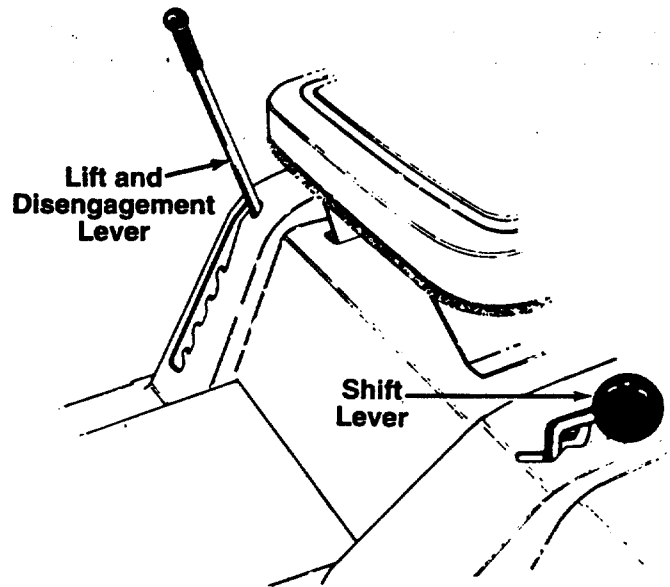

FIGURE 8.
The shift lever is located on the left fender and has three positions, FORWARD, NEUTRAL and REVERSE. See figure 8. The clutch-brake pedal must be depressed and the lawn tractor must not be moving when shifting gears. Do not force the shift lever. Release the clutch-brake pedal slightly to line up the shifting collar in the transmission. Then try to shift gears.
The lift and disengagement lever is used to raise and lower the cutting deck which determines the cutting height. Pulling it all the way back and locking it disengages the blades. The lift and disengagement lever must be in the disengaged position when starting the engine, when shifting into reverse or if the operator leaves the seat. See figure 8.
2. Place the lift and disengagement lever in the DISENGAGED position. See figure 8.